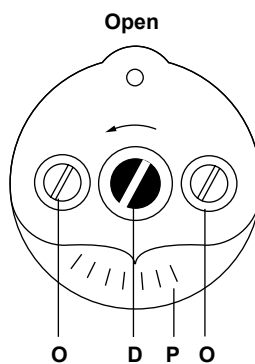

Fig. 9
4.2.2 Setting the open torque switch (White area, Fig. 9)